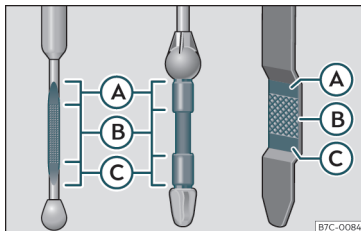

Fig. 248 Engine oil dipstick.
- Then pull it out once more and check the oil level >>> Fig. 248. Top up with engine oil if necessary.
If the oil level is above area »» **Fig. 248 (A)**, do not start the engine. This could result in damage to the engine and catalytic converter. Contact a specialised workshop.
The oil level must never be above zone »» **Fig. 248 (A)**. Otherwise oil can be drawn in through the crankcase breather and leak into the atmosphere via the exhaust system.